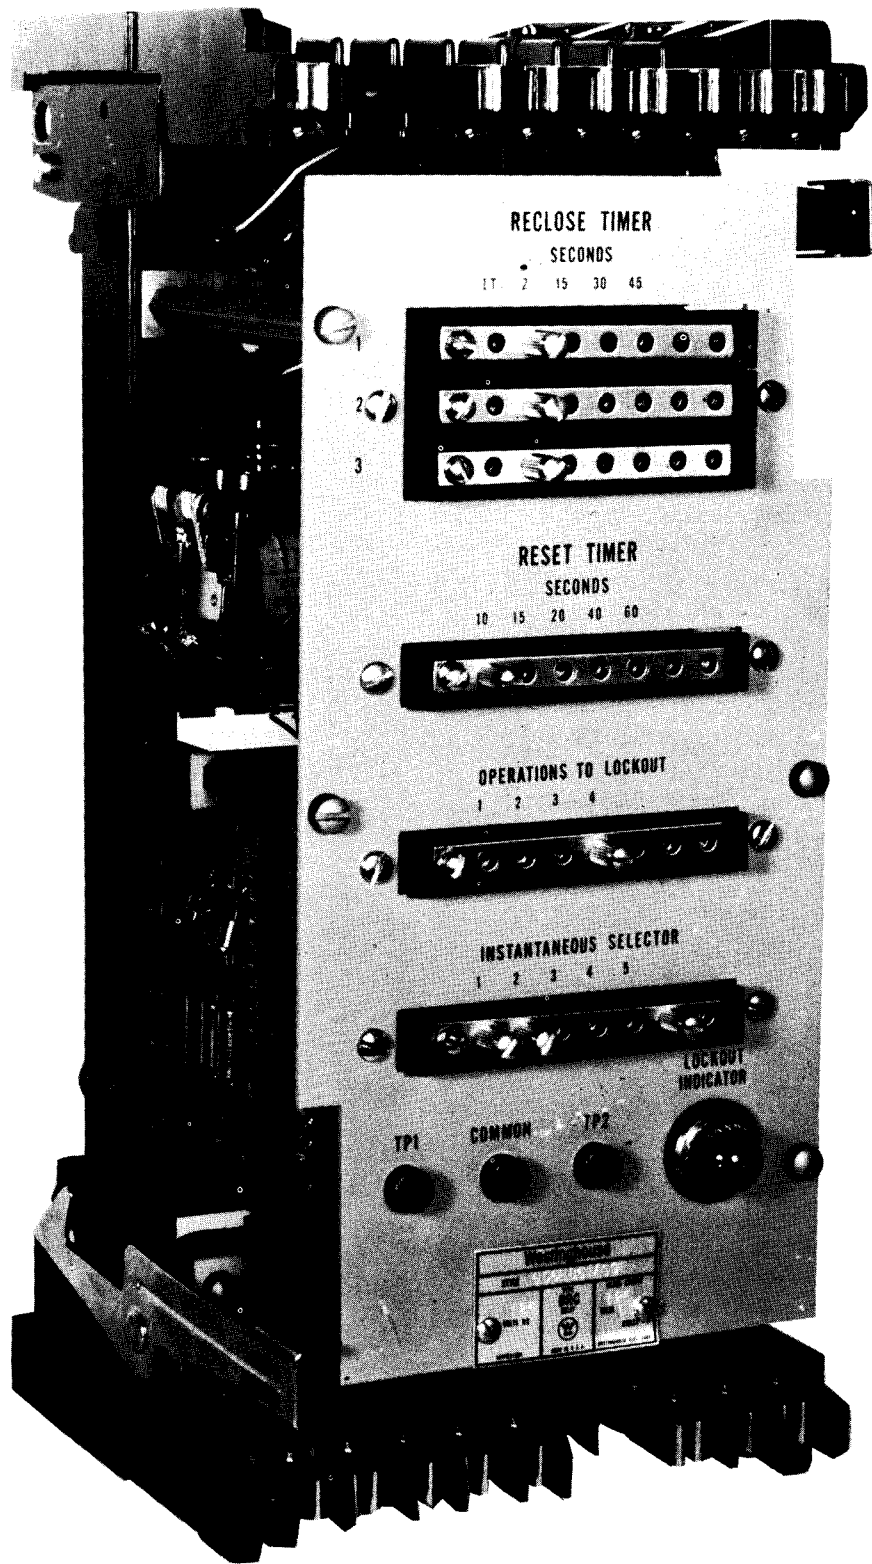

Fig. 1 Type DRC relay (front view)
timer printed circuit board (4) voltage regulator (5) alarm relay (6) instantaneous trip relay (7) close relay and (8) lockout indication. All timing functions are accomplished through the use of semiconductor components. The identification of all components and their locations are shown in figures 1, 2, and 3.